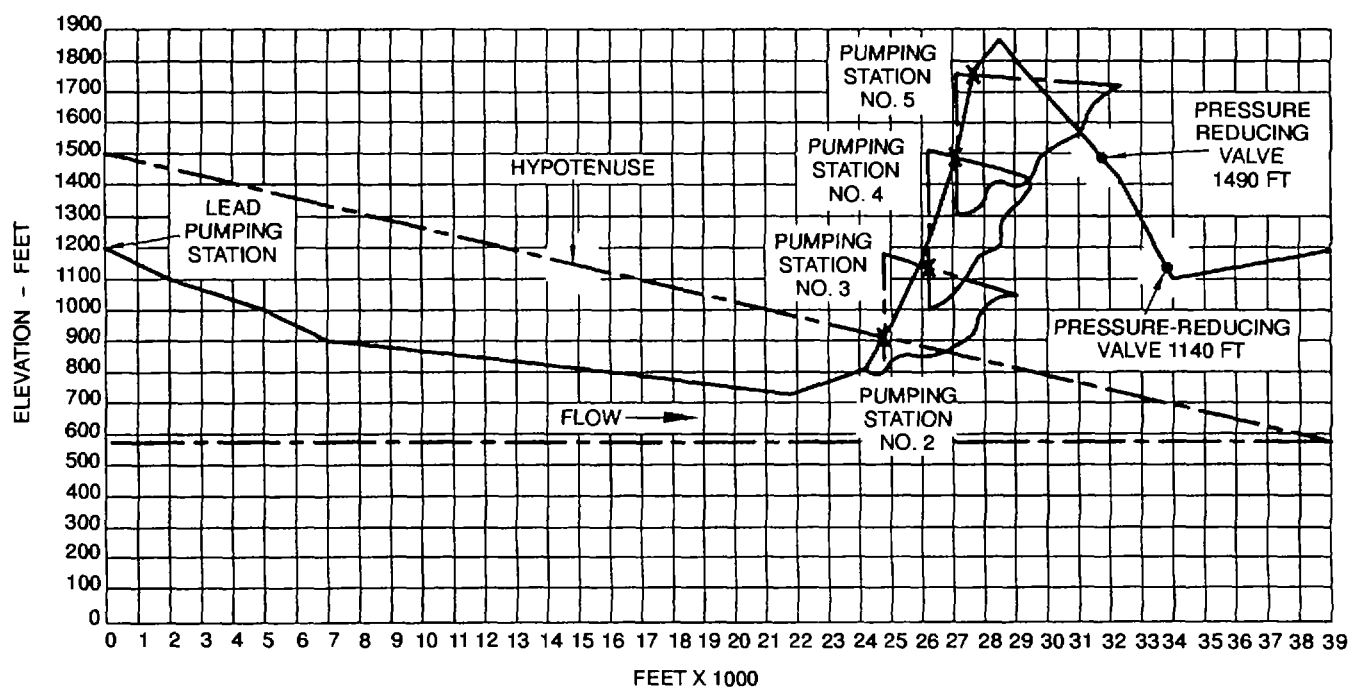

Figure 2-4. Ground Profile and Pump Spacing Triangle
- (1) Divide the horizontal base of the triangle into spaces on the same uniform scale used to divide the base of the ground profile graph. Mark off spaces along the triangle base to at least 39,000 ft (11,895 m).
- (2) Divide the vertical, left-hand edge of the triangle into spaces on the same uniform scale used to represent elevation changes on the ground profile. Mark off spaces along the vertical side of the triangle as follows:
- (3) Draw a straight, diagonal line from the 300 ft (91.5 m) mark on the vertical scale to the 39,000 ft (11,895 m) mark on the horizontal scale. This line will form the hypotenuse or long side of the triangle.
- (4) Making sure all lines have a straight edge, cut the triangle along the three sides drawn (horizontal, vertical, and diagonal).
- i. First Boost Pumping Station. Using the ground profile and pump spacing triangle (Figure 2-4), determine the location of the first boost pumping station as follows: